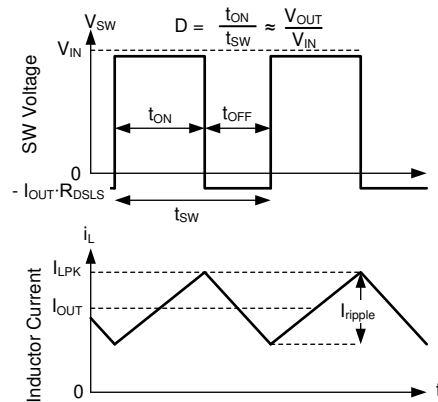

图 8-14. SW Voltage and Inductor Current Waveforms in Continuous Conduction Mode (CCM)
The following operating description of the LMR36503 refers to Figure 8.2 and to the waveforms in Figure 8-14. In CCM, the LMR36503 supplies a regulated output voltage by turning on the internal high-side (HS) and low-side (LS) switches with varying duty cycle (D). During the HS switch on-time, the SW pin voltage, V_{SW} , swings up to approximately V_{IN} , and the inductor current, i_L , increases with a linear slope. The HS switch is turned off by the control logic. During the HS switch off-time, t_{OFF} , the LS switch is turned on. Inductor current discharges through the LS switch, which forces the V_{SW} to swing below ground by the voltage drop across the LS switch. The converter loop adjusts the duty cycle to maintain a constant output voltage. D is defined by the on-time of the HS switch over the switching period: